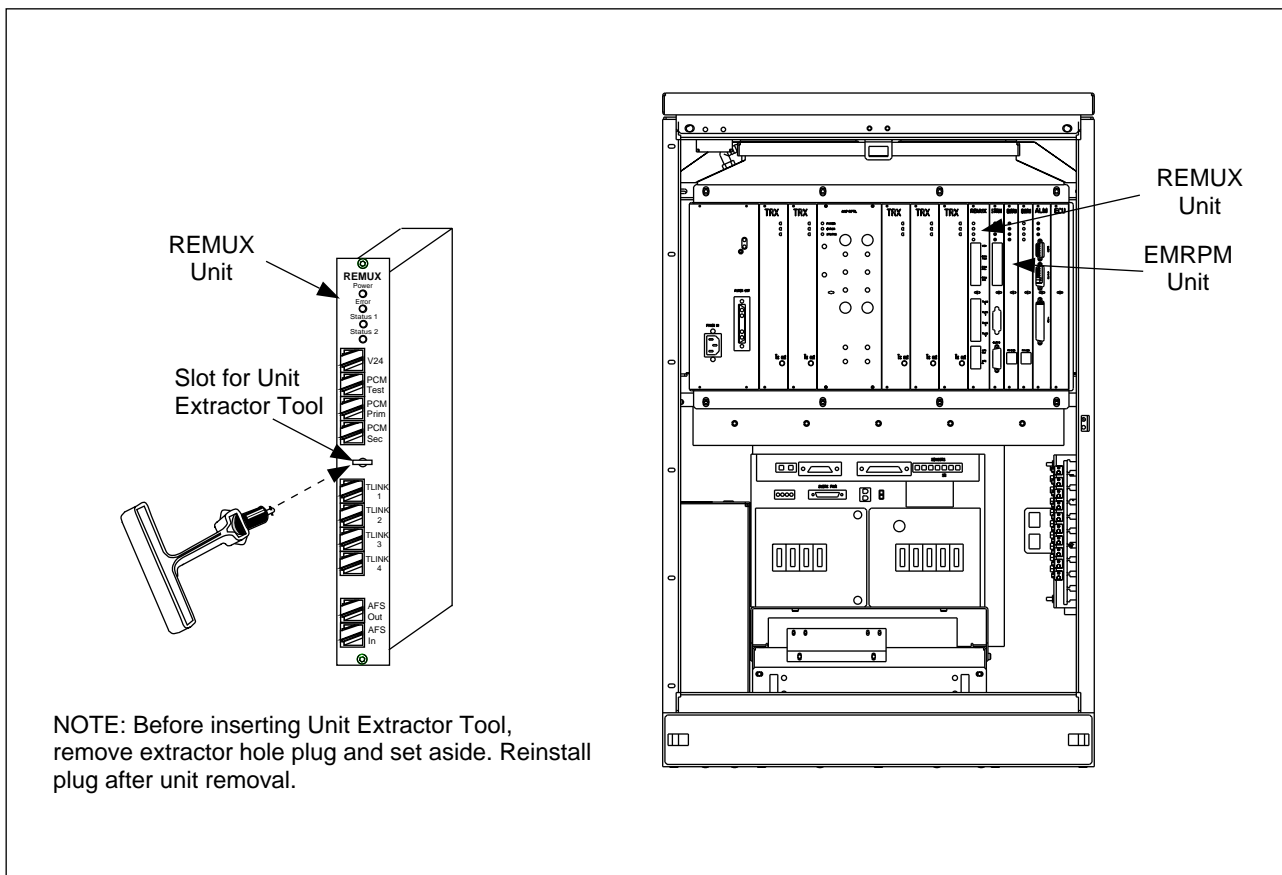

Figure 4-20. Cabinet Units for Switch Settings (Example with a Main Cabinet)
The units are shown in Figure 4-20 on page 4-40.
3. Remove the REMUX unit from the cabinet using the extractor tool as shown in Figure 4-20 on page 4-40. Save the extractor hole plug and replace plug after installing the REMUX unit.